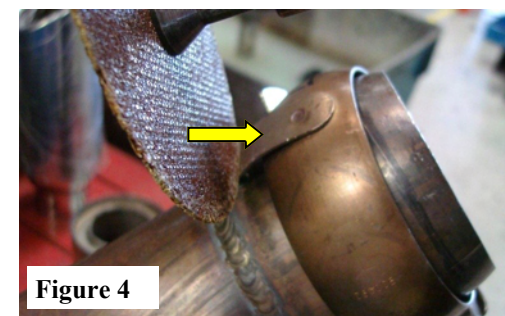

Figure 4
6. *Ball-clamp must be re-used for installation to factory cat-pipe. Cut clamp from factory H-Pipe as shown. (See Fig.4)
NOTE: This X-Pipe is designed to replace the factory H-Pipe which may vary width dimension from center to center. You may need to loosen the (4)15mm flange nuts in front of each cat-pipe to adjust. (See Fig.4)